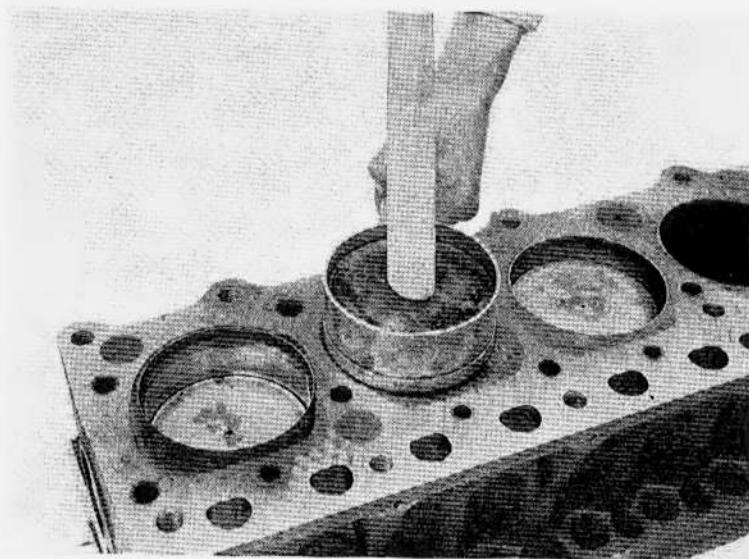

Figure 96 - Installing in Cylinder Bore
(2) Lubricate pistons and cylinder bores, remove bearing caps and cover connecting rod bolts with vinyl tubings. And then install piston and rod assemblies using piston inserter (Fig. 96).